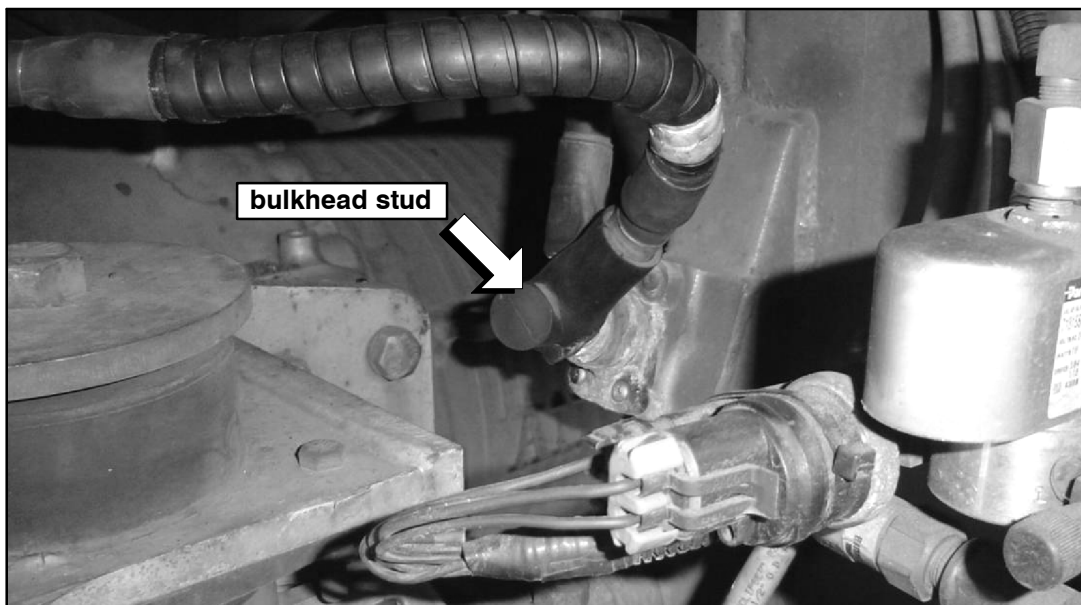

Figure 1.
4. Locate the cable terminal stud on the forward wall of the curbside, rear side service compartment (refer to Figure 1). Remove and retain the nut. Remove the starter cable from the bulkhead stud.
8. Place the starter cable on the bulkhead stud. Secure the cable terminal stud using nut remove in Step 4 (refer to Figure 1). Torque to 20 to 25 ft. lbs.